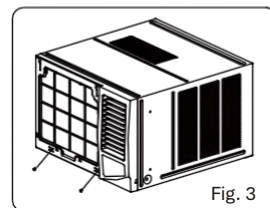

Fig. 3
1. Remove the two screws at the bottom of the frame (see figure 3).